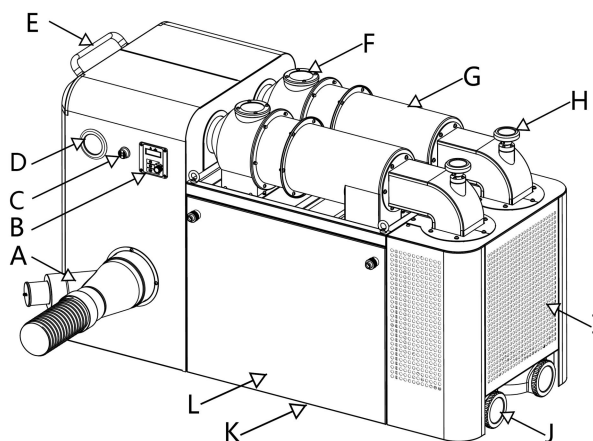

Fig.1
2.1 Feature Identification (*Fig.1*)